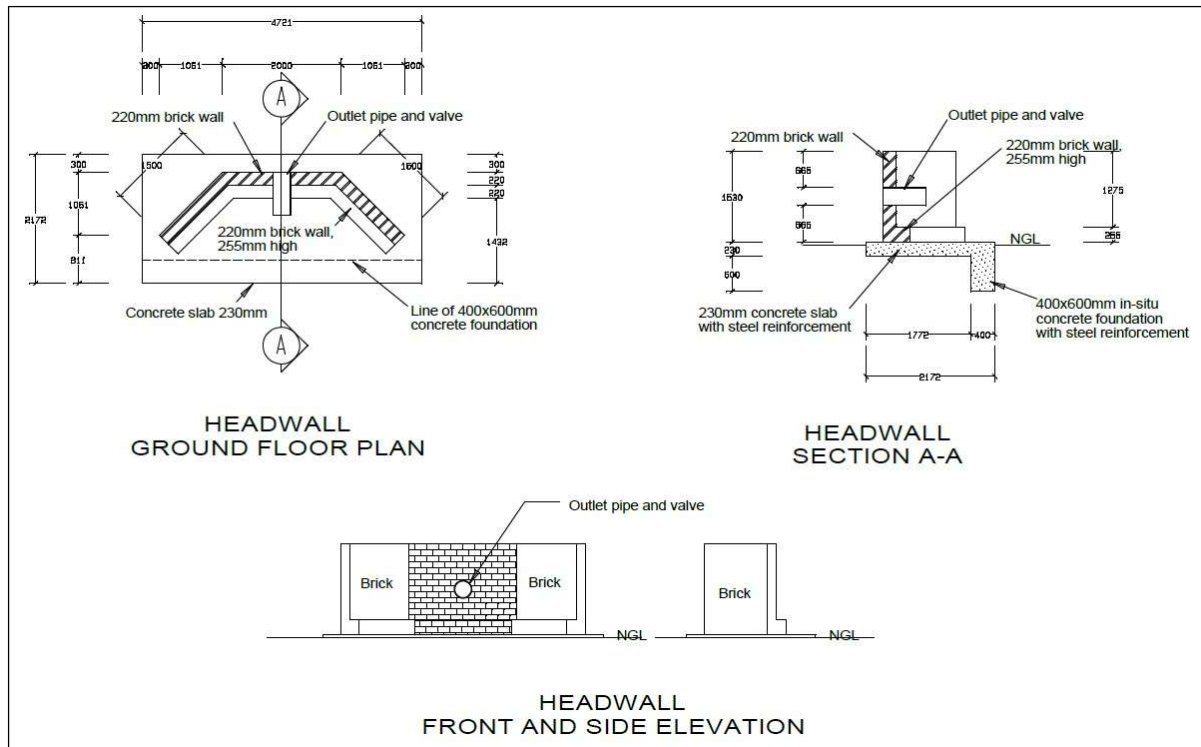

Figure 4: Schematic of an outlet pipe headwall structure
- g) Construction of two brick masonry headwalls. One at the 250mm dia outlet pipe for water releases, and one at the 750mm dia pipe for flood discharge. Refer to **Figure 4** below for headwall details.